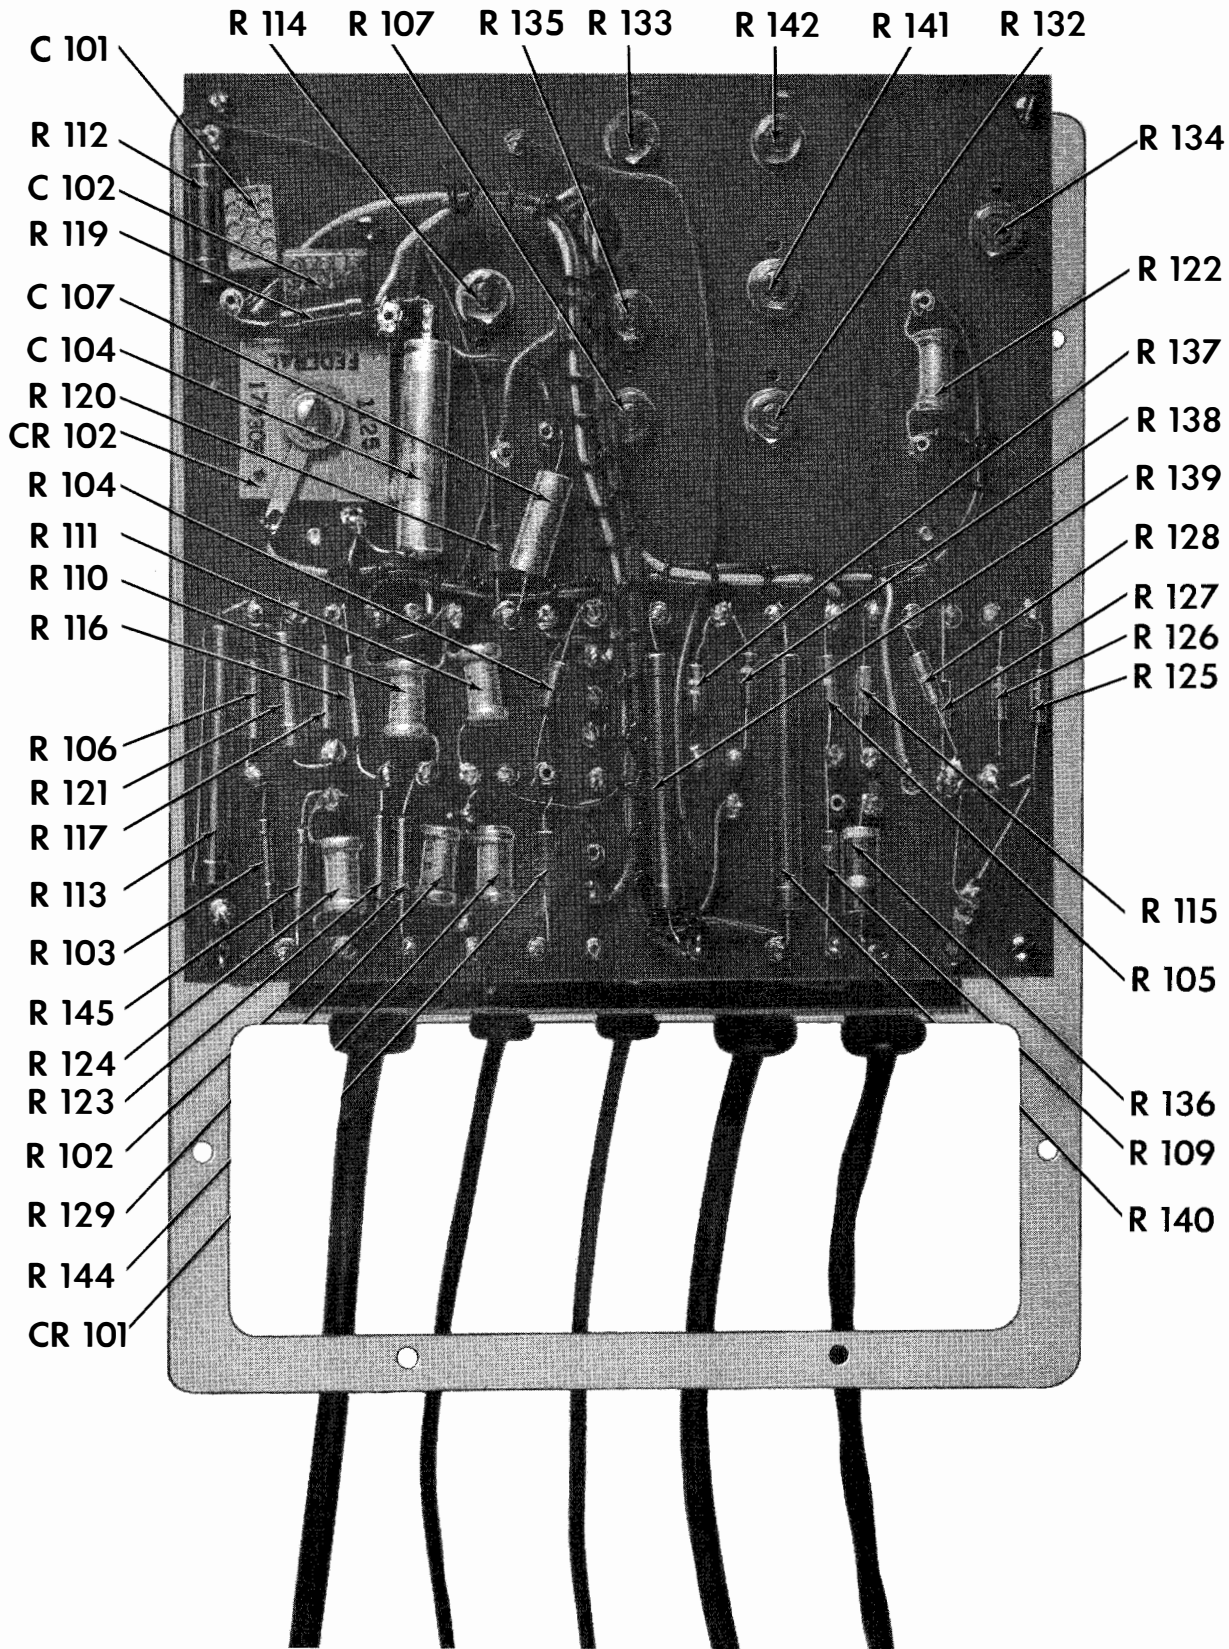

Fig. 6-1. MULTIMETER AN/USM-34 REAR VIEW OF CHASSIS WITH TERMINAL BOARD REMOVED
- b. Remove the case from the chassis and panel. Figures 6-1 and 6-2 are internal views of the unit showing the location of tubes and component parts.
b. Replace any tubes not functioning properly. The location of these tubes is shown in Figure 6-1. Any good tube of the same type as that employed may be used for replacement.
- (1) Set the FUNCTION switch to +DC volts.
- (2) Set the RANGE switch to the known +DC voltage to be applied.
- (3) Set the ZERO ADJUST control, R-108, so that the meter reads zero.
- (4) Apply the known +DC voltage. If the meter does not indicate the proper voltage adjust potentiometer R-133 (See Figure 6-1) until the meter indicates the applied voltage.
- (5) To calibrate -DC volts, set the FUNCTION switch to -DC volts, reverse the known DC voltage and follow the procedure above for the +DC voltage calibration except that potentiometer R-135 is adjusted until the meter indicates the applied voltage.